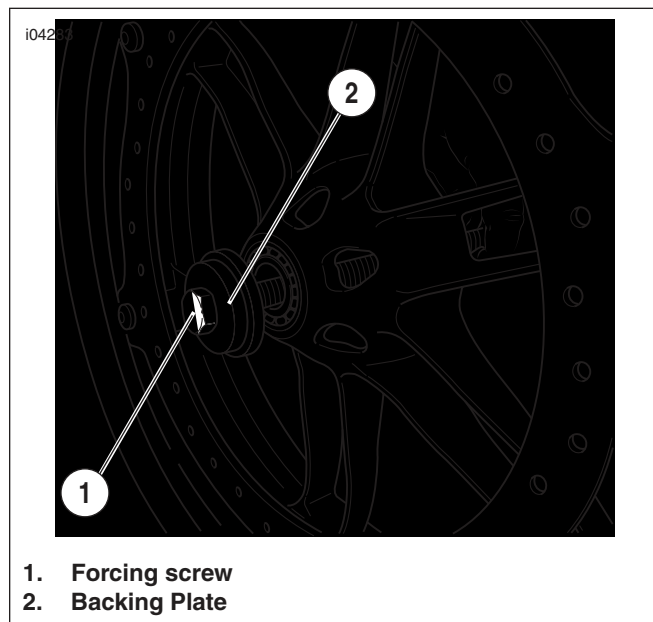

Figure 2-15. Insert Forcing Screw and Backing Plate
8. See Figure 2-15. Remove the BACKING PLATE (Part No. B-43993-11) from the long forcing screw. Reinstall the Backing Plate onto the forcing screw, with the smaller diameter toward the hex-head.